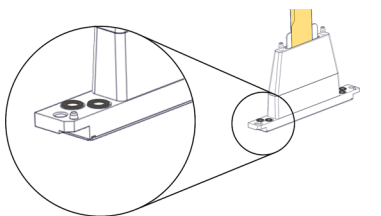

Figure 4-96 O-ring seals on the print head
17. Place four (4) O-ring seals in the replacement head (see Figure 4-96 on the previous page).